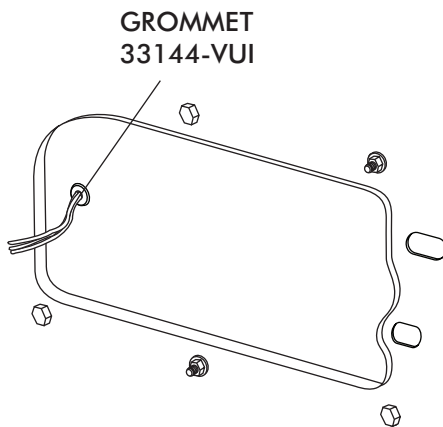

FIGURE 16
- ROUTE A/C WIRES THROUGH 3/8" GROMMET AS SHOWN IN FIGURE 16 (12 VOLT/ GROUND/ BINARY SWITCH/ HEATER VALVE).